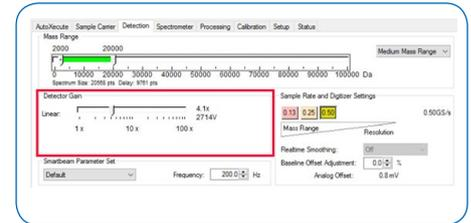

Figure 4.10 The Detector Gain Slider under the Detection Tab
- If the voltage is more than 50 V, the recommended voltage should be adapted under „Detection“ – „Detector Gain“ by changing the slider (see Figure 4.10)